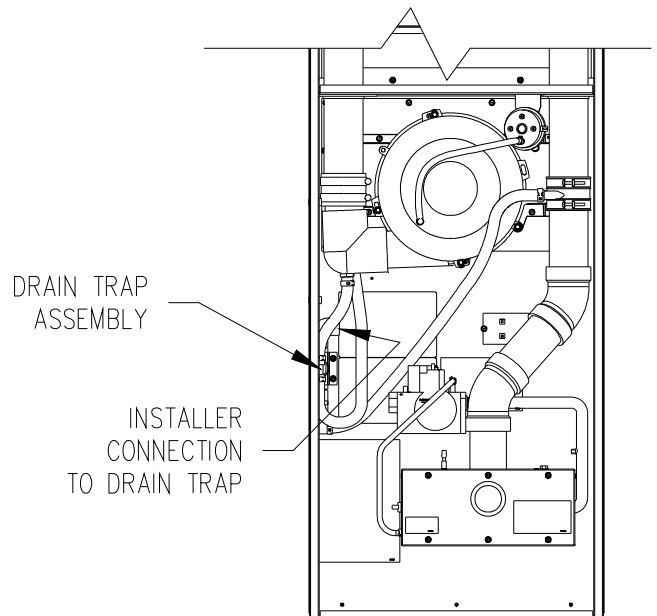

Figure 14.
1. Figure 14 illustrates the typical drain trap connection for a VMA/VMC furnace. (Trap will be installed at factory.) Connect condensate drain trap to building drain system.